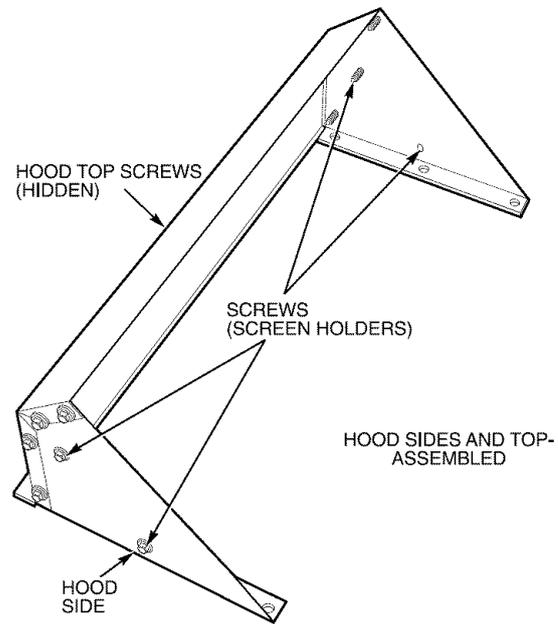
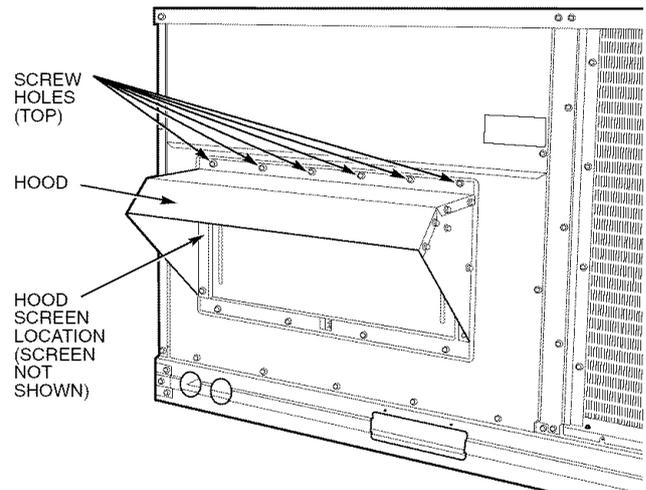

Fig. 16 — Outdoor-Air Hood Details
Fig. 17 — Optional Manual Outdoor-Air Damper with Hood Attached
5. Place hood on front of outdoor air opening panel. See Fig. 16 for hood details. Secure top of hood with the 6 screws removed in Step 3. See Fig. 17.
7. Align screw holes on hood with screw holes on side of manual outdoor-air damper. See Fig. 16 and 17. Secure hood with 8 screws from Step 6.
9. Remove and save screws currently on sides of hood. Insert screen. Secure screen to hood using the screws. See Fig. 17.